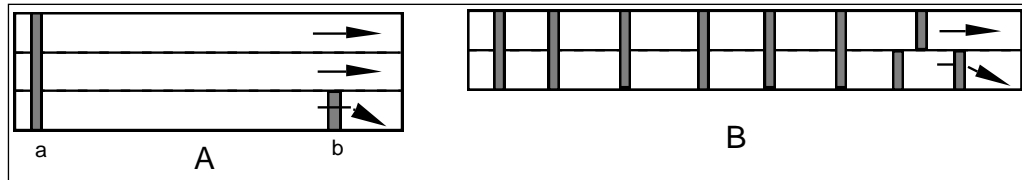

Figure 15 Examples of detector positioning in a section
Figure 15 shows examples of detector positioning in a section. In Section A, detector b is used to detect right-turn vehicles. Multiple detectors as in (B) are possible using video detection.